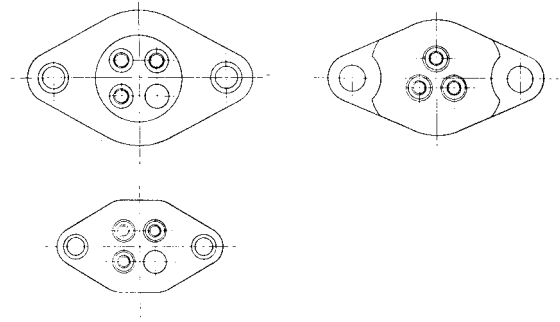

Figure 9 Arrangement of terminals
6. Verify that the power terminals (019) at the motor will fit the connectors of the terminal box:
- Refer to Figure 9.